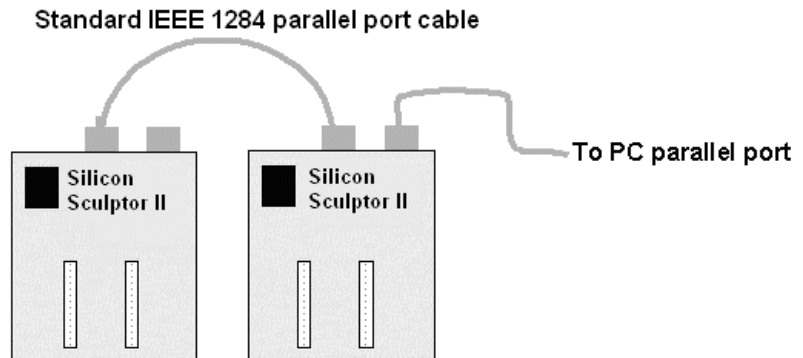

Figure 1-11. Concurrent Setup
4. Connect the second Sculptor to the first Sculptor in a daisy chain configuration using the custom expansion cable as shown in Figure 1-11.